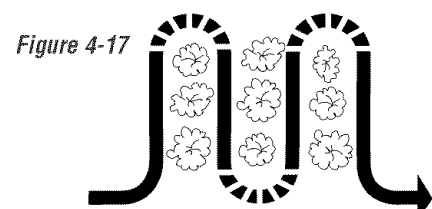

Figure 4-17
- With planning, you can allow enough room between rows to cultivate (Figure 4-17). Leave room for the hood width, plus enough extra room for future plant growth.